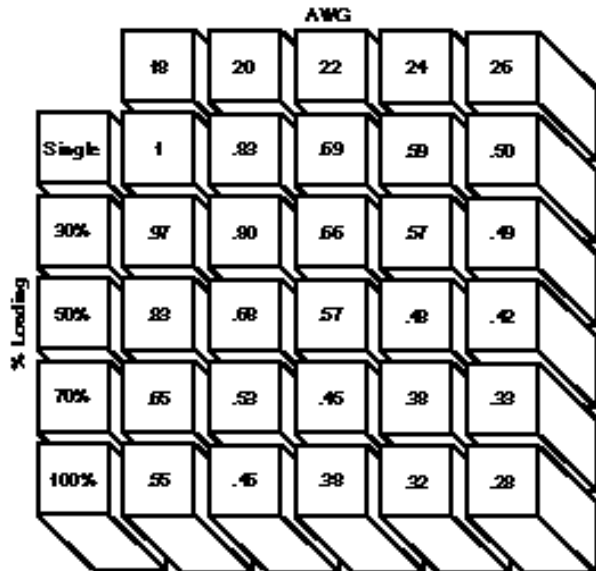

Figure 2
- Figure 2, the rating factor for 50% loading and 20 AWG [0.6 mm2] wire is 0.68.